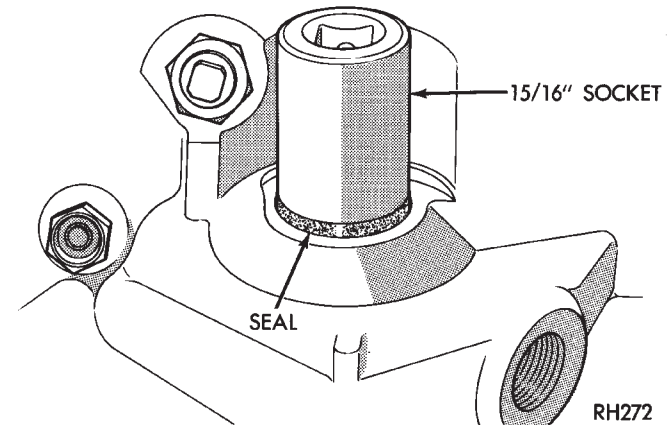

Fig. 47 Manual Lever Shaft Seal
(3) Check condition of manual lever shaft seal in transmission case. Replace seal if lip is cut or worn. Install new seal with 15/16 deep well socket (Fig. 47).